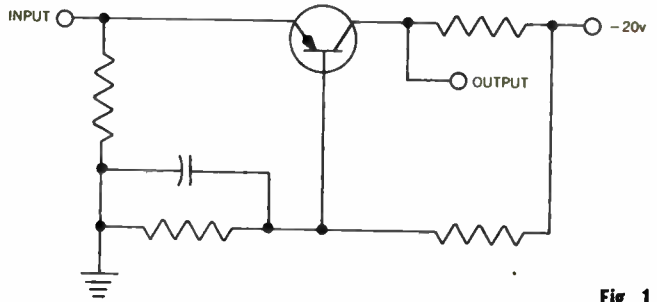

Fig. 1
- If the circuit in Fig. 1 is a Class A amplifier, the dc
- To take advantage of the most collector voltage, available, the transistor should be biased so that the collector voltage is about half the supply voltage or about 10v in Fig. 1.